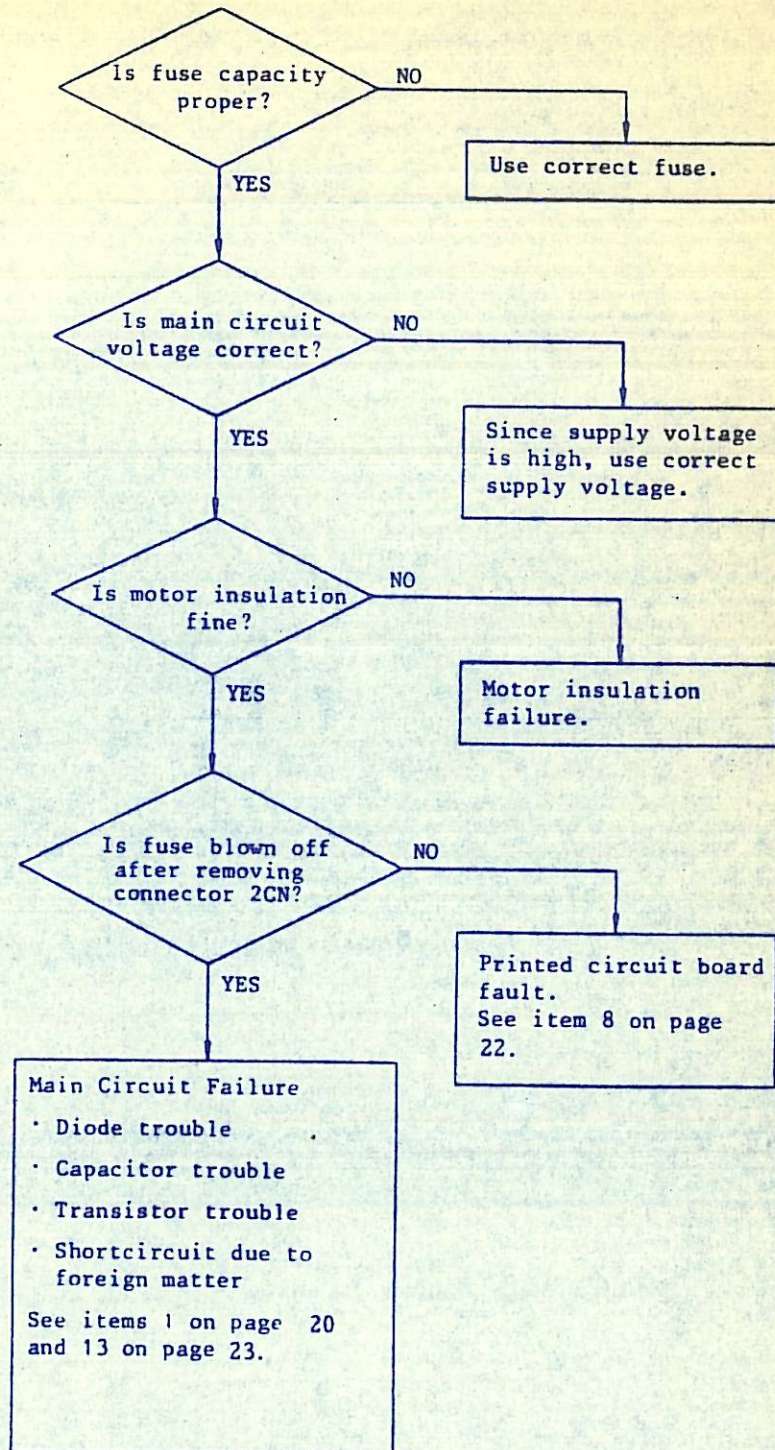

Fig. 10
2. When turning on main power, fuses are blown off. See Fig. 10.